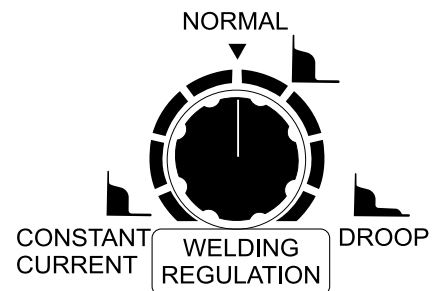

Figure 39. Welding Regulation Control Knob
6. Set the welding regulation control knob (Figure 39) to the desired setting.